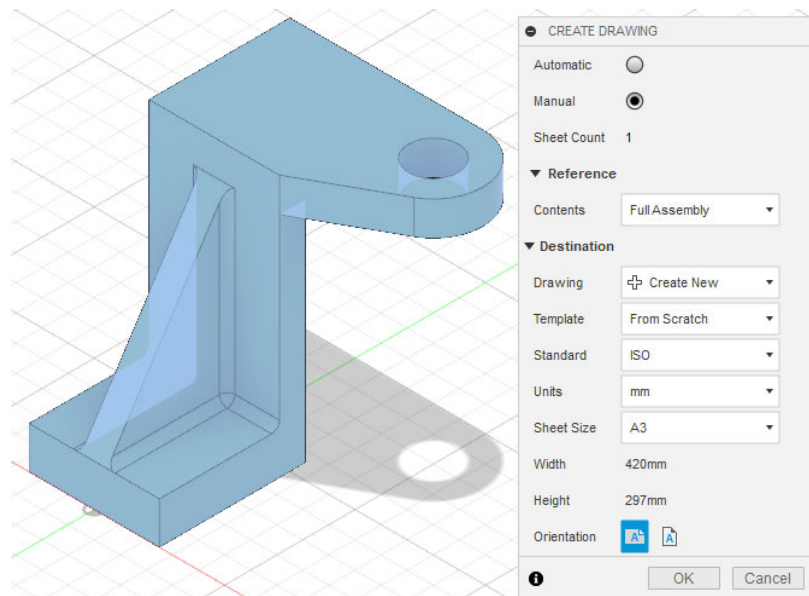

Fig. 15: 3D Drawing Setting.
21. Go to “DESIGN” – “DRAWING – “From Design”. Set the drawing setting as shown in Fig.15 and click “OK”.